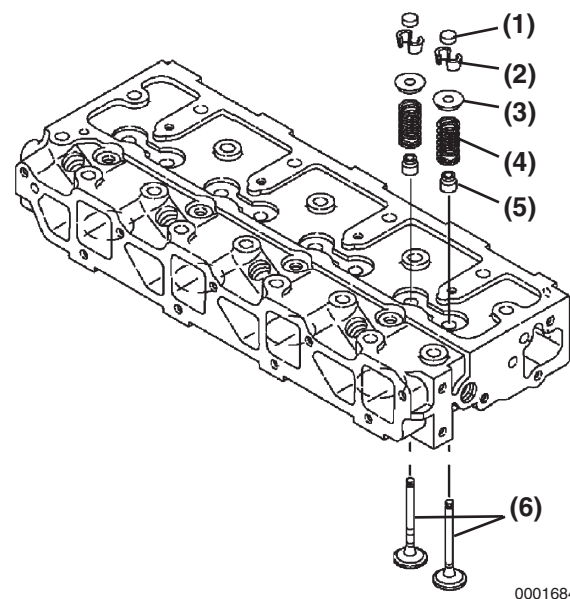

Figure 6-11
4. Remove the valve keepers (Figure 6-11, (2)).
6. Remove the spring retainer (Figure 6-11, (3)) and valve spring (Figure 6-11, (4)).
2. Remove the valve cap (Figure 6-11, (1)) and keep with the valve it was installed on.
8. Turn the cylinder head so the exhaust port side faces down. Remove the intake and exhaust valves (Figure 6-11, (6)) from the cylinder head.
9. Remove the valve stem seals (Figure 6-11, (5)).